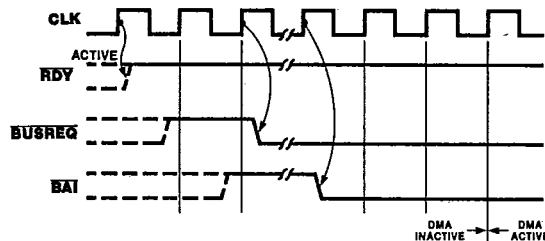

Figure 15. Bus Request and Acceptance
**Bus Requests.** Figure 15 illustrates the bus request and acceptance timing. The RDY line, which may be programmed active High or Low, is sampled on every rising edge of CLK. If it is found to be active, and if the bus is not in use by any other device, the following rising edge of CLK drives  $\overline{BUSREQ}$  Low. After receiving  $\overline{BUSREQ}$ , the CPU acknowledges on the  $\overline{BAI}$  input either directly or through a multiple-DMA daisy chain. When a Low is detected on  $\overline{BAI}$  for two consecutive rising edges of CLK, the DMA will begin transferring data on the next rising edge of CLK.